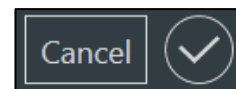

Figure 31 – Cancel changes or save them by clicking the check mark
- Save changes by clicking the check mark, see *Figure 31*.